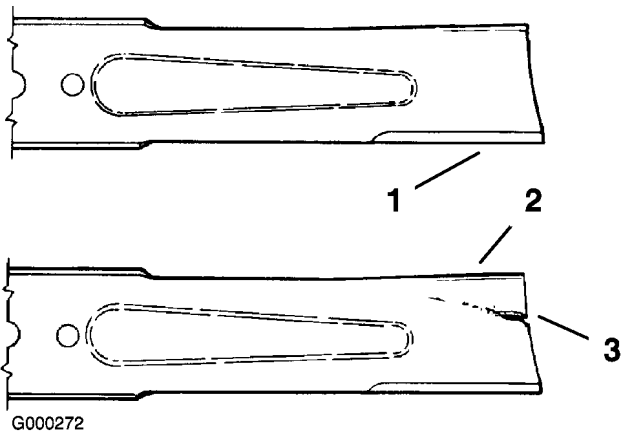

Figure 57
1. Inspect the cutting edges (Figure 57). If the edges are not sharp or have nicks, remove and sharpen the blades. Refer to Sharpening the Blades.
2. Inspect the blades, especially the curved area (Figure 57). If you notice any damage, wear, or a slot forming in this area (item 3 in Figure 57), immediately install a new blade.